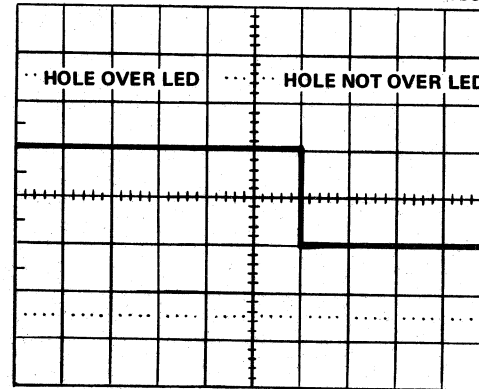

Figure 3-15. Tape Hole Sensing Voltage
- 5. Move tape back and forth past tape hole sensors by manually turning roller wheel, which is accessible through aperture in right corner of cartridge. Voltage should toggle as holes in tape move past sensors; i.e., when holes are aligned with light path from light-emitting diodes (LED) in tape hole sensor block, voltage should be high; when tape obstructs light path, voltage should be low, as shown in Figure 3-15.